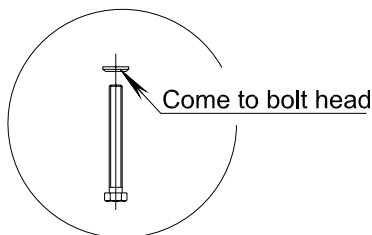

FIG 8
- Re-install the blades (if they were removed) by placing a block of wood between the front or rear baffles and the blade then torque the blade bolts to 115-120ft.lbs (156-163 N-M). Be sure the spring disk washer cone is installed toward the bolt head. (See FIG 8).